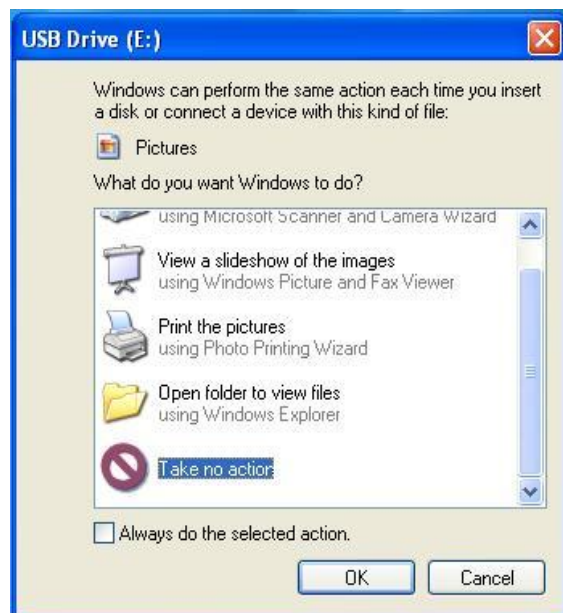

Figure A-4: USB Drive (E:) Screen
6. Reconnect all USB devices. The *USB Drive (E:)* screen will appear (Figure A-4).